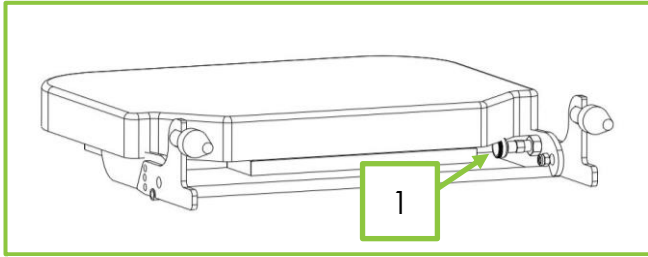

Figure 25
1. Locate the footplate angle adjustment plunger underneath the footplate (Fig 25, Item 1).